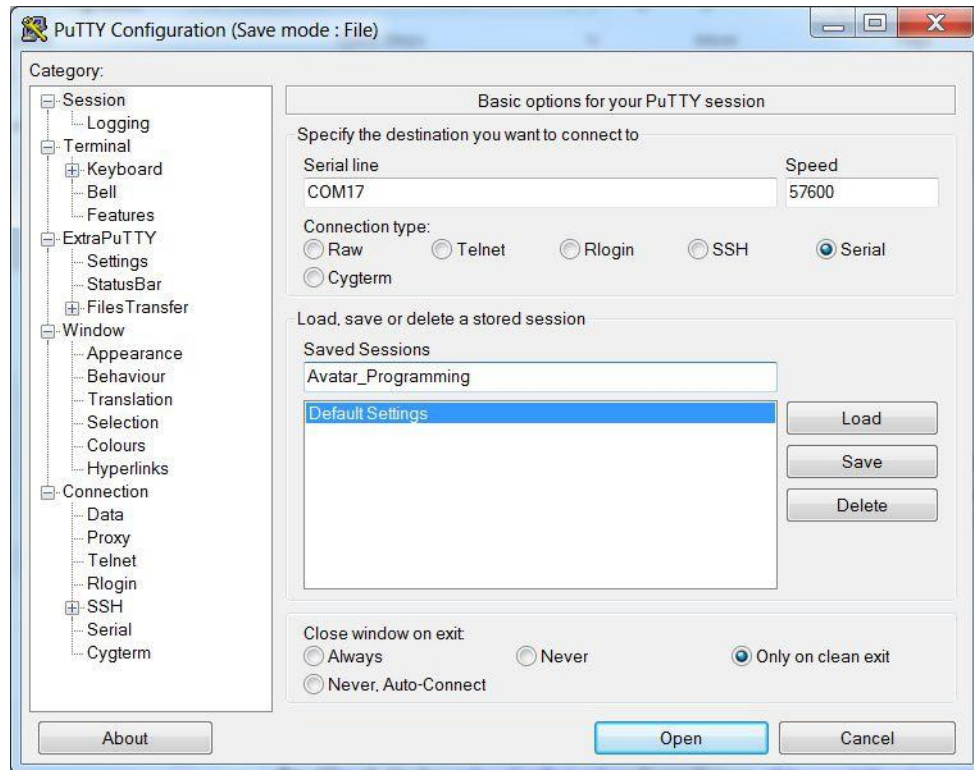

Fig. 8. Saving the configuration
- (3) Fig. 8 shows the startup screen with the correct COM port and baud rate shown. In order to save the configuration, type in a name for the configuration and click the “Save” button. Then click the “Open” button to open the Session screen.